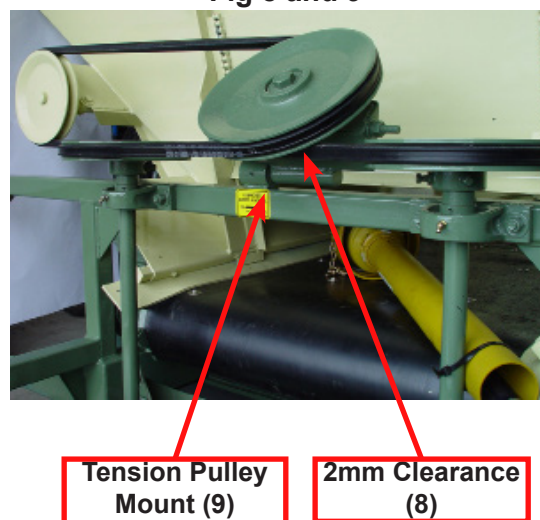

Fig 10
For the correct V-Belt tension see figure (10), once tension has been taken up there should be approximately 40mm from the top of the V-Belt to the top of the side shaft as shown. (Fig 10). To adjust tension loosen off the tension pulley shaft nut (Fig 6) then tension the adjuster (Fig 11).